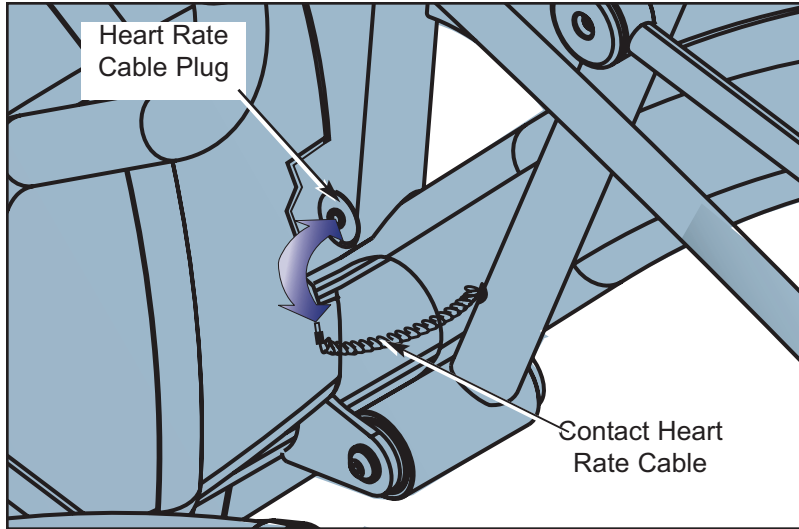

Figure 23
- A. Turn the main power switch above the power inlet to the off (O) position.
- A. Unplug the contact heart rate cable from the main frame. See Figure 23.
- A. Plug the contact heart rate cable into the plug in the main frame. See Figure 23.